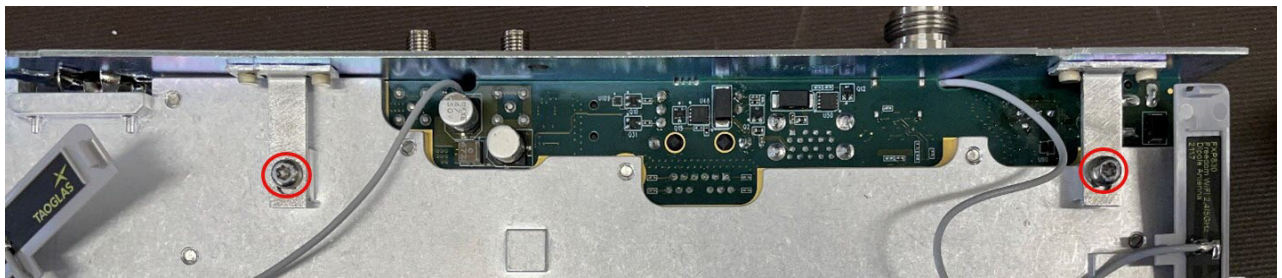

Figure 3-15. SPA PCB Removal
2. Remove the two Torx screws using T10 Torx driver from the brackets on the Main PCB. See Figure 3-15.